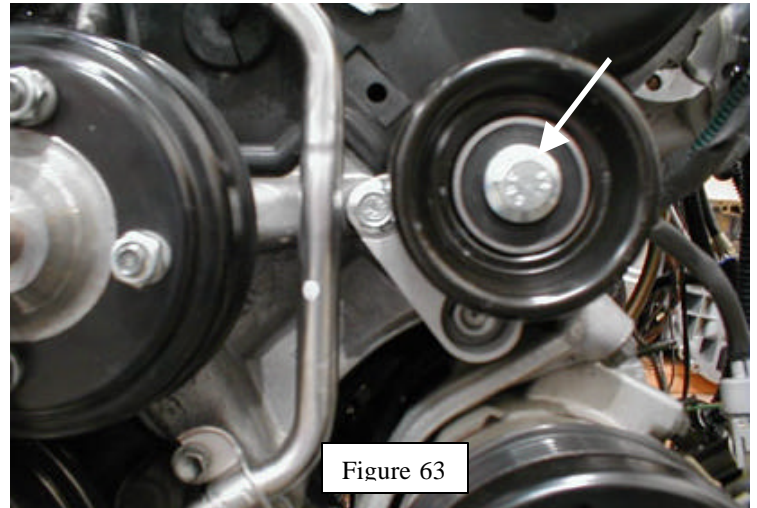

Figure 63
41. Insert the supplied 10mm flange-head bolt through the idler pulley and pulley spacer. Install the idler pulley and spacer to the idler bracket (Figure 63). Torque the bolt to 39 N-m (29 ft-lbf).